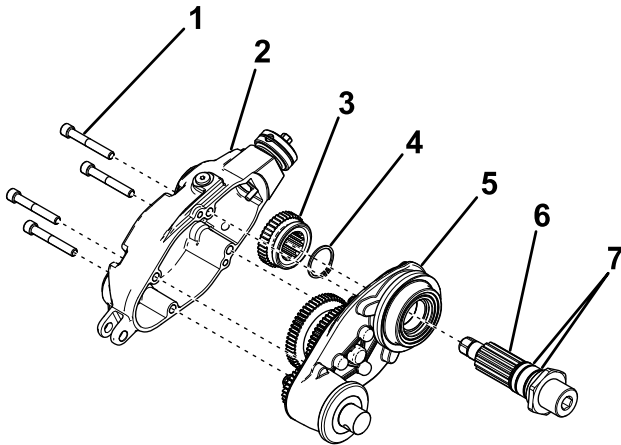

Figure 4
6. Remove the 4 bolts securing the groomer drive cover (Figure 4).
7. Remove the cover, and slide the driver gear off the drive shaft (Figure 4).
8. Remove the retaining ring and push the drive shaft assembly out of the groomer housing (Figure 4).
9. Remove and discard the O-rings on the drive shaft assembly (Figure 4).